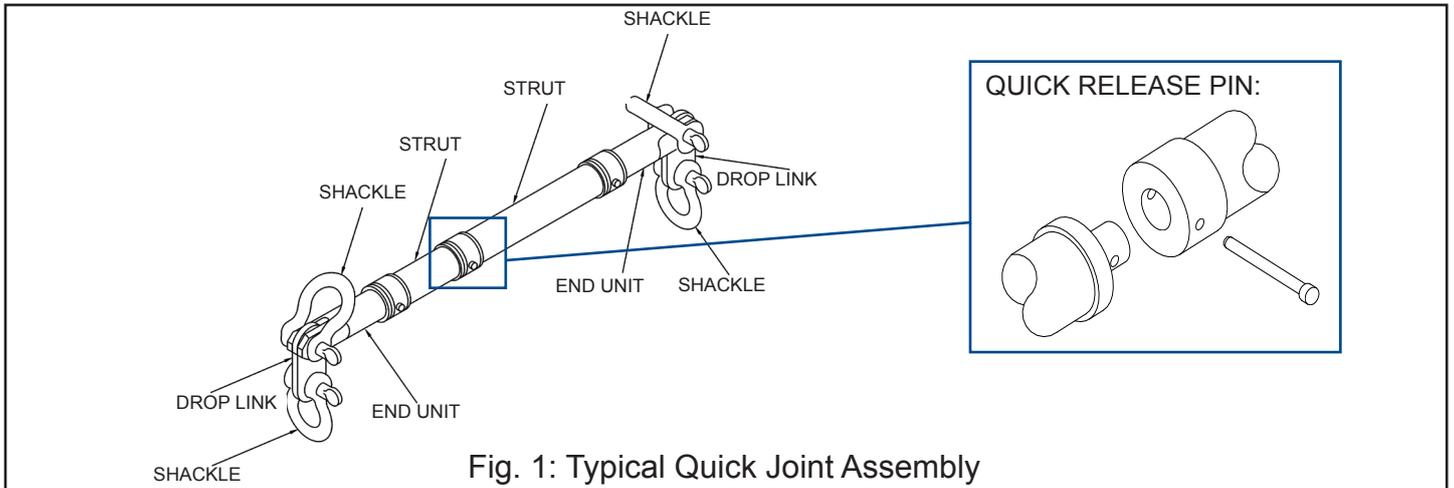

Fig. 1: Typical Quick Joint Assembly
- Do ensure to load the spreader through the drop links only. i.e. adhere to Fig. 1.